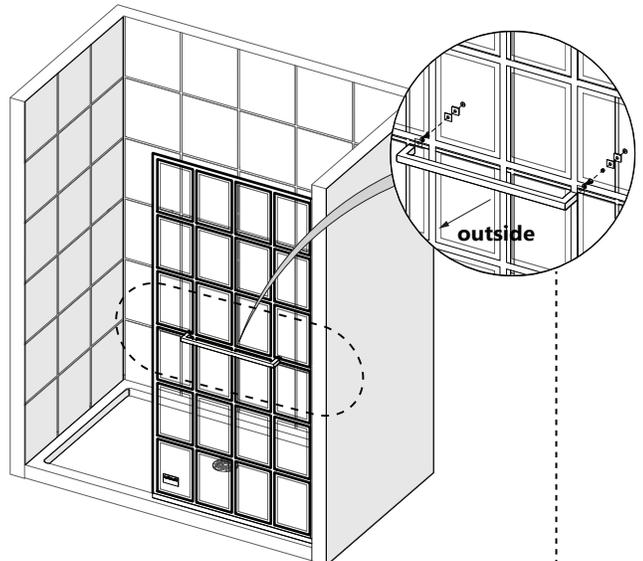

Fig 16b
- Install the **Towel Bar Assembly (#05)**, ensuring all vinyl gaskets are present to prevent glass-to-metal contact, as shown in **Fig. 16b**.